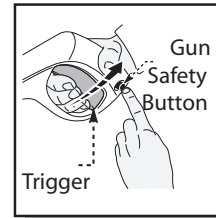

fig. 10
4. Release safety lock button on spray gun (fig. 10) while pointing in safe direction and squeeze trigger until it sprays a steady stream of water.